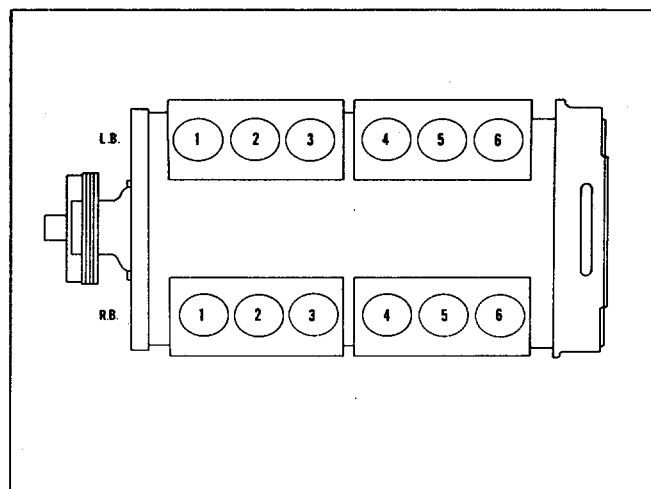

Fig. 2-47, (V414231). V-1710 piston position
- For the firing order see Table 2-13 for Inline Engines and Table 2-14 and Fig. 2-47 for V-1710 Engines.